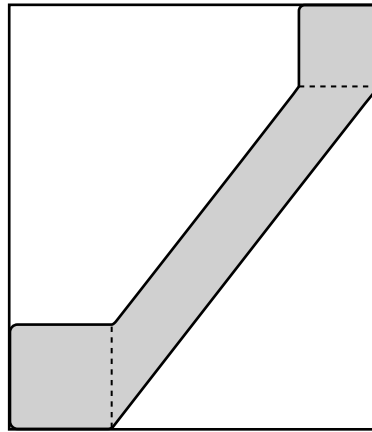

Fig. 15
- (ii) Fig. 15 shows the shape of one bracket marked out on sheet material.